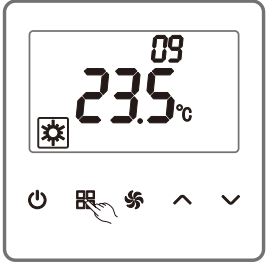

Figure 15
As shown in the Figure 15, on the parameter setting page, press  (MODE) to switch the option number to 09.  (UP) or  (DOWN) is provided to allow a rise or drop on the temperature. If the temperature unit is Celsius, the adjustment range of the temperature is 16°C~30°C with a precision of 0.5°C. If the temperature unit is Fahrenheit, the adjustment range of the temperature is 61°F~86°F with a precision of 1°F.